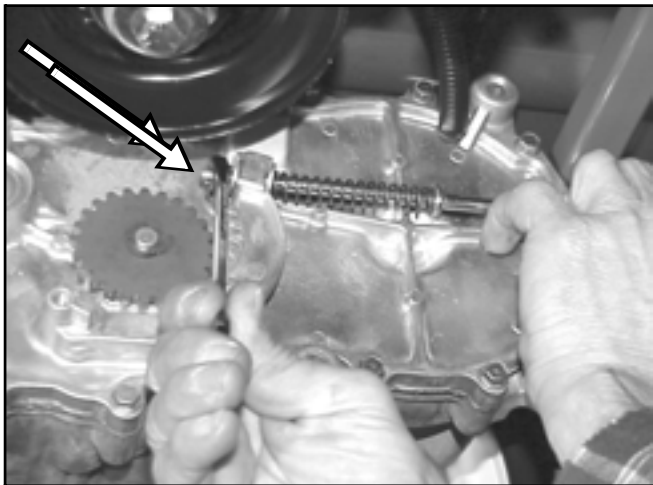
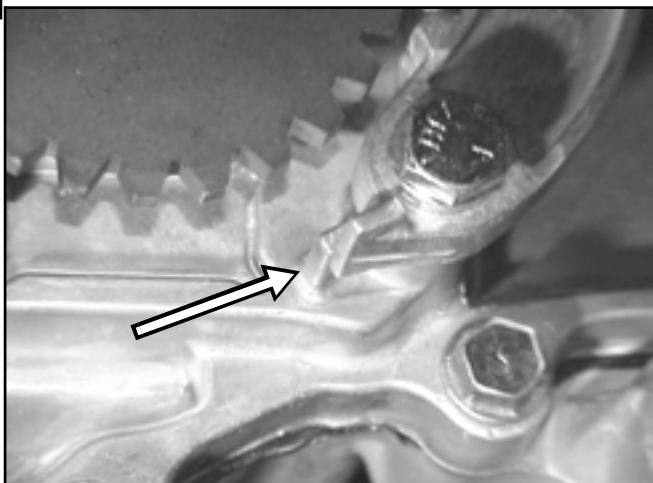

Figure 63
Figure 64
2. Pull back on the brake rod and adjust the nut on the end of the rod (Figure 63) until the tab at the bottom of the brake lever and the tab located on the transaxle housing meet (Figure 64).